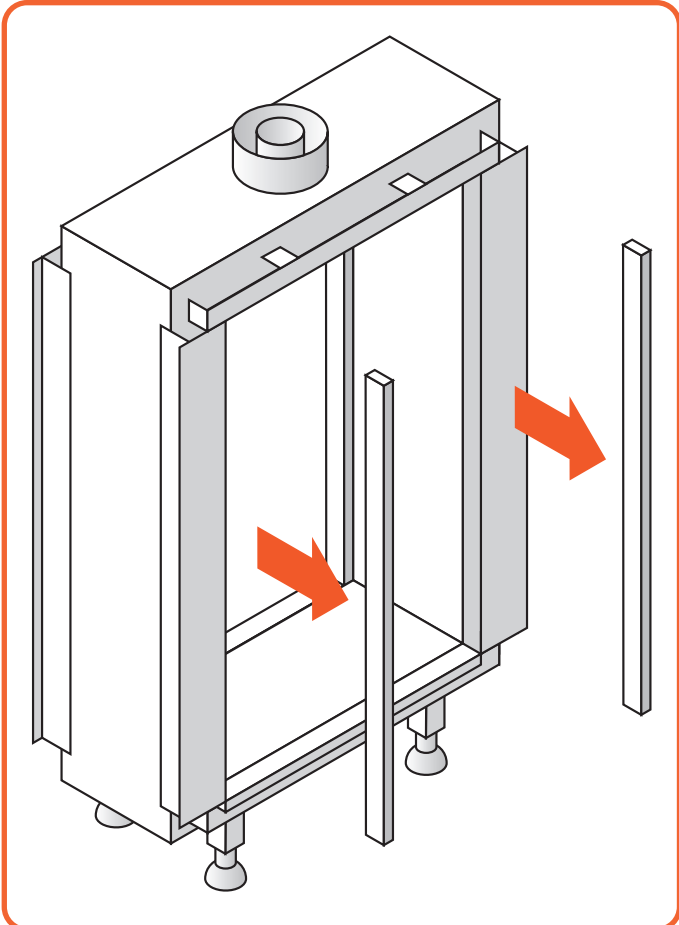
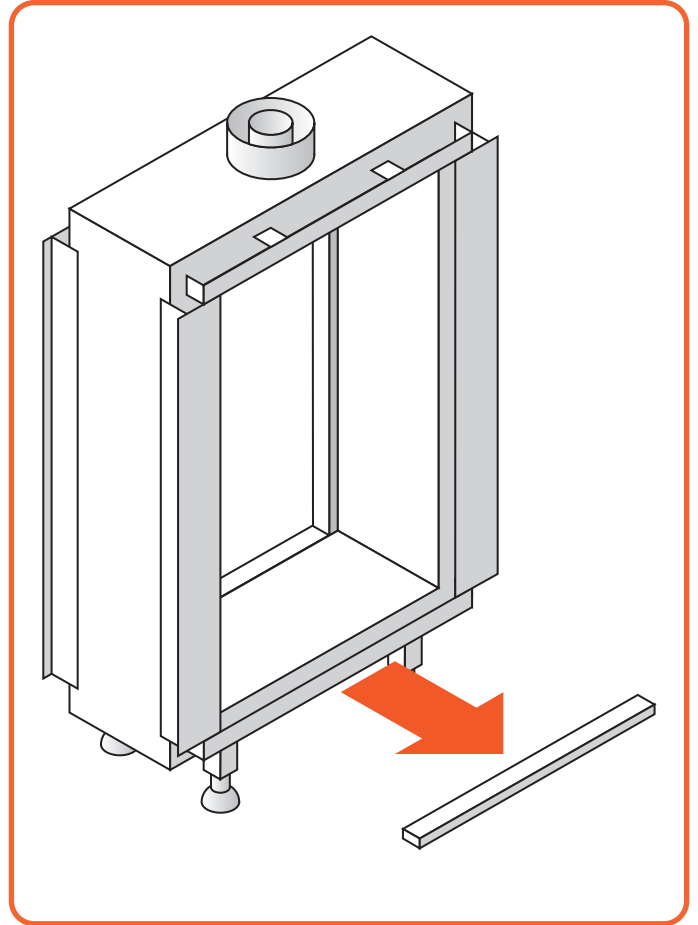

Figure 11.4 | Remove side trims
Figure 11.5 | Remove bottom trim
- Remove both the side trims and bottom trim. They are held by magnet snappers, Figure 11.4 & Figure 11.5.